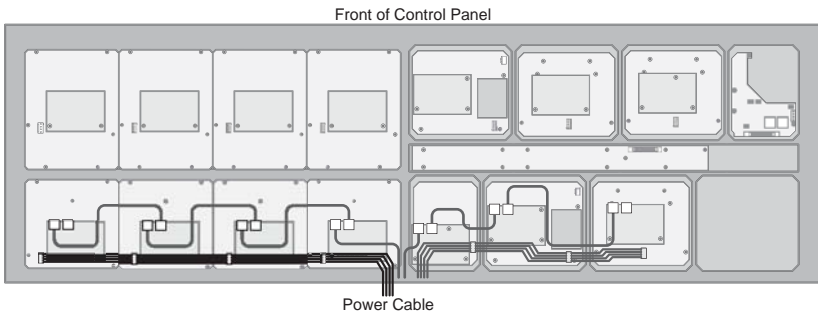

Figure 9 *Module Power Cable — Vision 2X*
2. Connect and secure one of the **Module Control Link Cables** to the **NEXT** port on the first module ①.
3. Connect and secure the other end of the **Module Control Link Cable** to the **PREV** port on the second module ②.
4. Connect and secure one of the **Module Control Link Cable** to the **NEXT** port on the second module ②.
5. Connect and secure the other end of the **Module Control Link Cable** to the **PREV** port on the third module ③.
6. Connect and secure one of the **Module Control Link Cables** to the **NEXT** port on the third module ③.
7. Connect and secure the other end of the **Module Control Link Cable** to the **PREV** port on the fourth module ④.
8. Connect and secure the existing **Module Power Cable** to the **Power** connector on the first module (**Figure 9**). This 4-conductor ribbon cable delivers power to all the modules in the row.